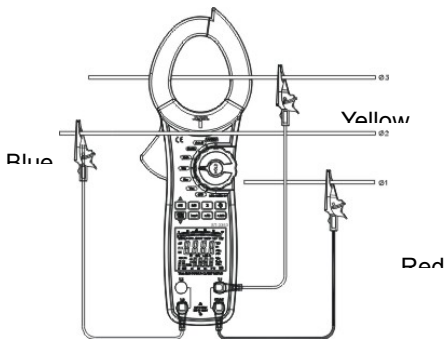

Figure 15
- When measuring 3 phase 3 wires, Hold **SEL** for 5 seconds and the Meter show ~~303W~~, press **SEL** again for 5 seconds to exit 3 phase 3 wires ,connecting the Meter as figure 15.
In figure 15 $\Sigma W = W2 + W3$.